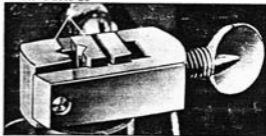

Fig. 20
Saber blades are clamped in the V-jaws, (A) Fig. 20, of the lower chuck, rather than in the flat jaws. The normal position of the lower chuck is therefore correct for cutting from the side of the machine. When cutting from the front, turn the chuck so that the thumb screw is to the front.